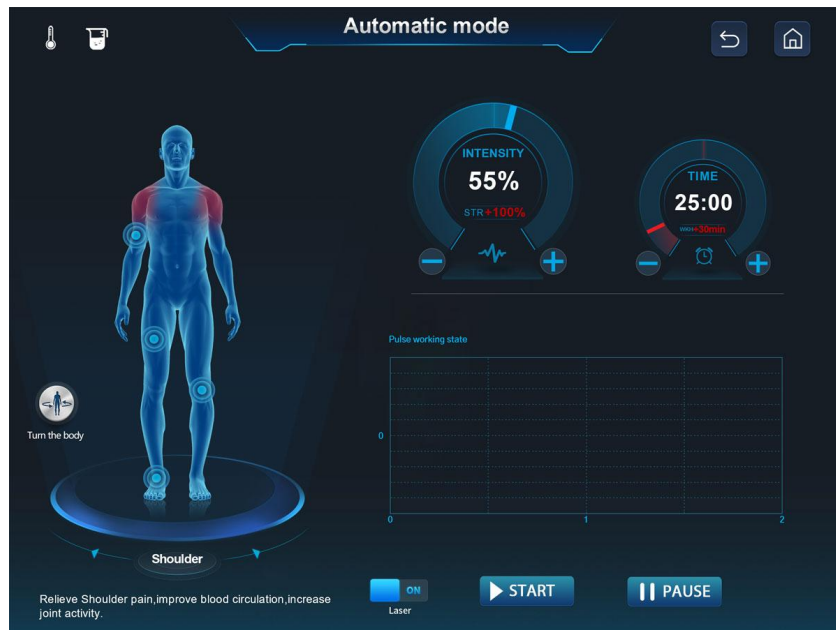

Figure 2
2、 Figure 2 is the intelligent automatic function operation interface.